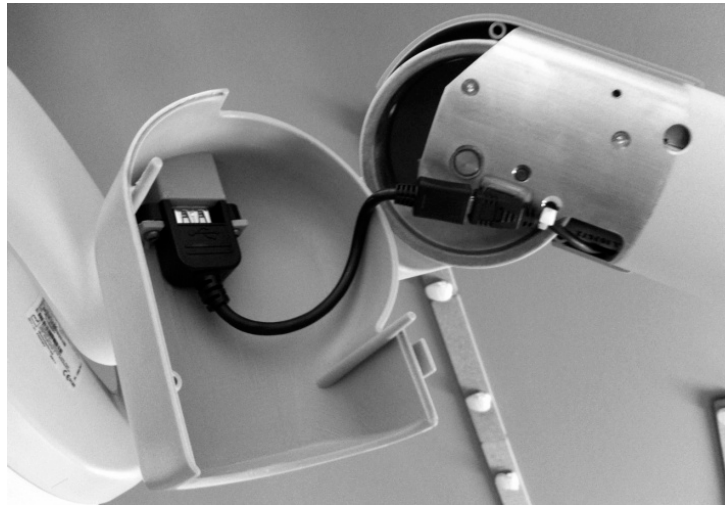

Figure 47: Installing the Sensor Interface Cable
4. Plug the USB cable into the Sensor Interface Cable as shown on Figure 47.